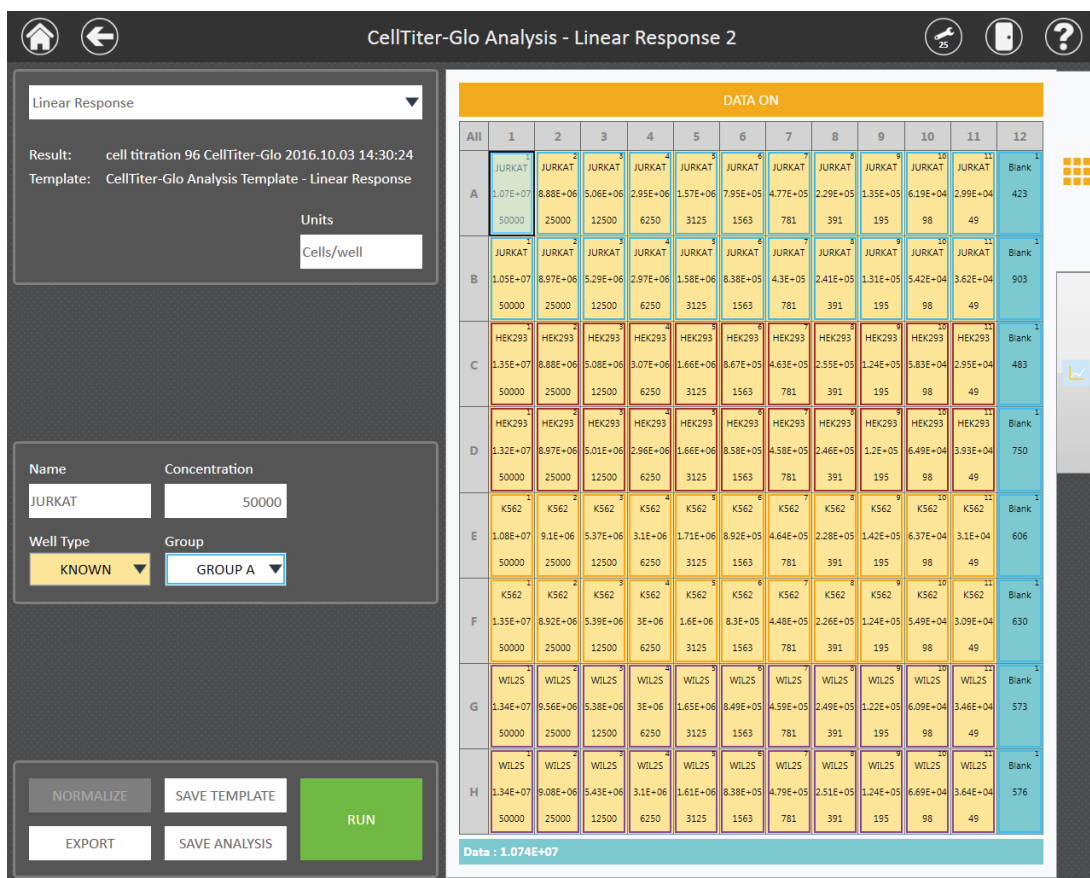

Figure 76. Once a template has been applied to the data, touch the Run button to analyze the results.
- Once a template has been assigned to the result file, touch the green **Run** button near the bottom of the left side of the screen to perform the analysis of samples (Figure 76). When the analysis is completed, an "Analysis has successfully completed" message will appear on the screen. Select **OK** to view the analyzed results.
Data from the plate read will be populated in the center of the wells on the plate map. To view results of a single-read analysis, toggle the data displayed in the wells of the plate using the **Data On/Off** button at the top of the screen (Figure 76).